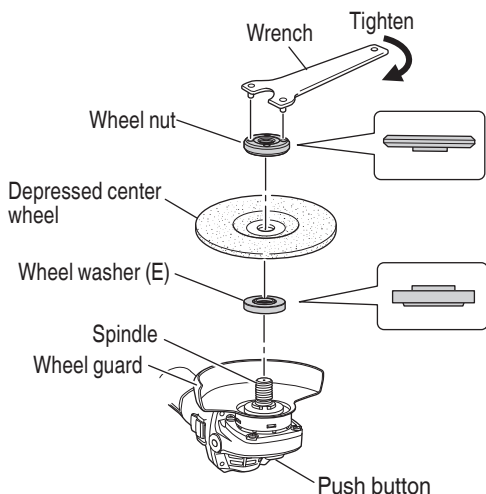

Fig. 18
4. Thoroughly check that the depressed center wheel is free of cracks, splits and other abnormalities before mounting. Make sure it is firmly clamped and has been properly mounted. Refer to “Depressed Center Wheel Assembly and Disassembly” (Fig. 18)
- Align the oval-shaped indentation of the wheel washer (E) with the notched part of the spindle, then attach them.
- Fit the protuberance of the depressed center wheel onto the wheel washer (E).
- While pushing the push button with one hand, lock the spindle by turning the depressed center wheel slowly with the other hand. Tighten the wheel nut by using the supplied wrench as shown in Fig. 18.